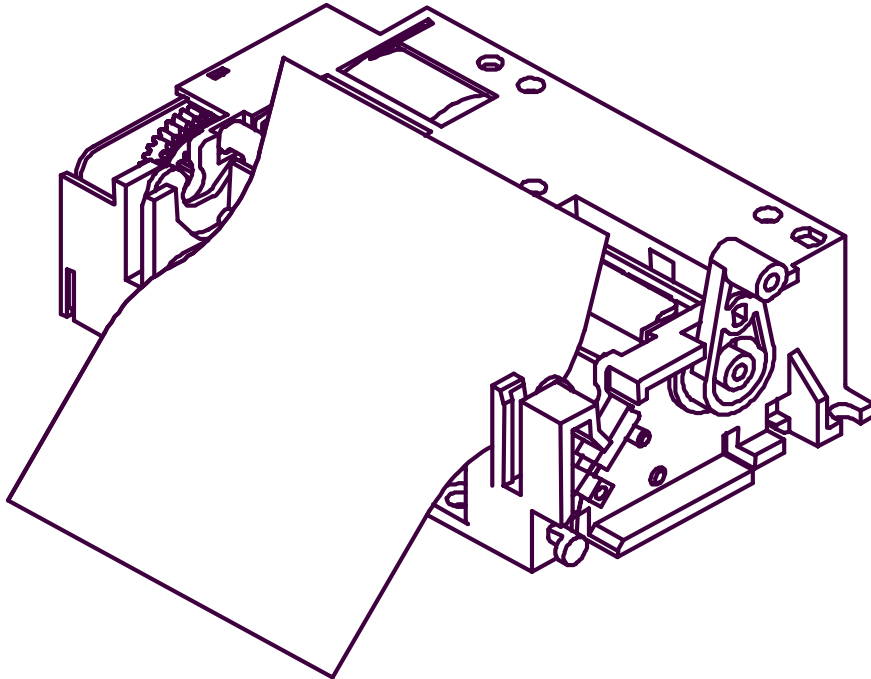

Figure 8-2 Loading Paper (2)
- Set the paper straight into the paper insert position until 5 cm or more of the paper edge is projected from the upper surface of the mechanism. (See **Figure 8-2.**) Close the platen after making sure that the paper is set straight. (Close state)